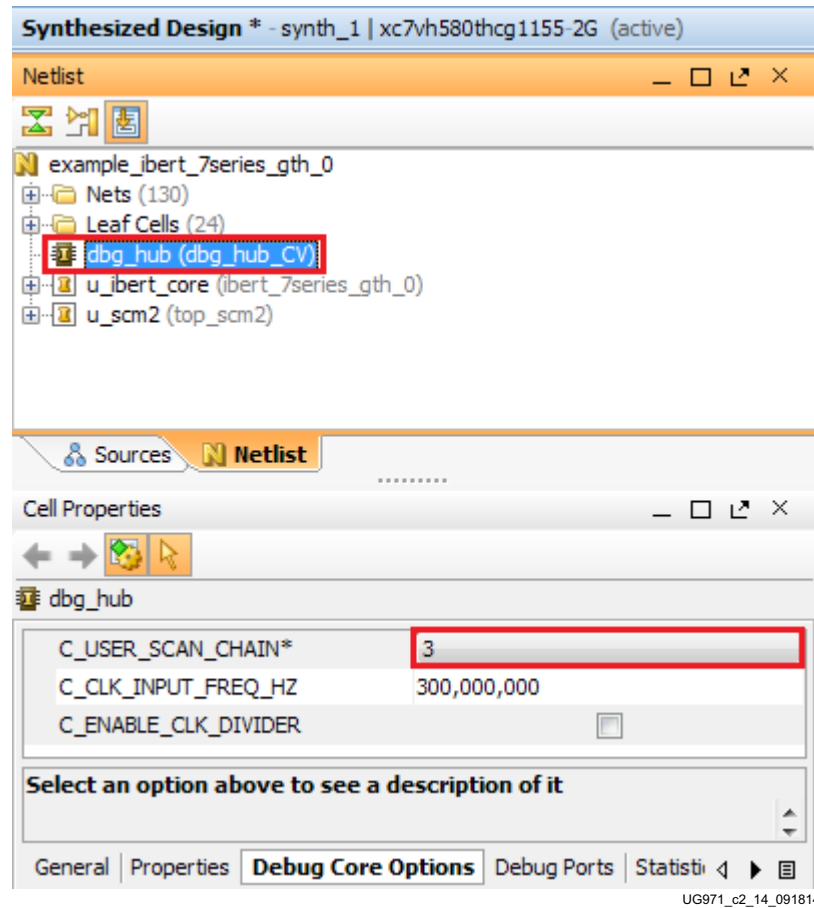

Figure 2-14: Debug Core Options for dbg_hub
- When the Synthesized Design opens, select **dbg_hub** in the Netlist window, then select the **Debug Core Options** tab in the Cell Properties window. Change **C_USER_SCAN_CHAIN*** to **3** (Figure 2-14). Click **File > Save Constraints**.